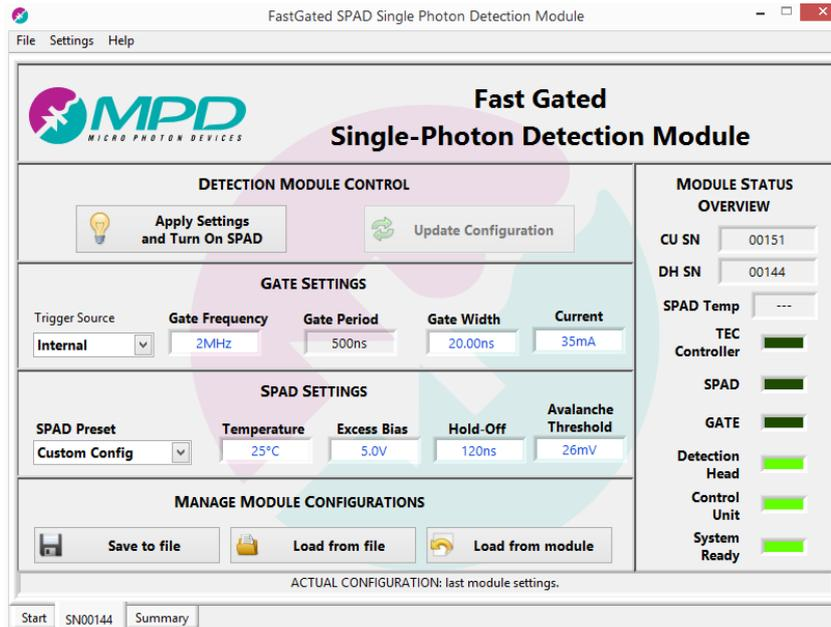
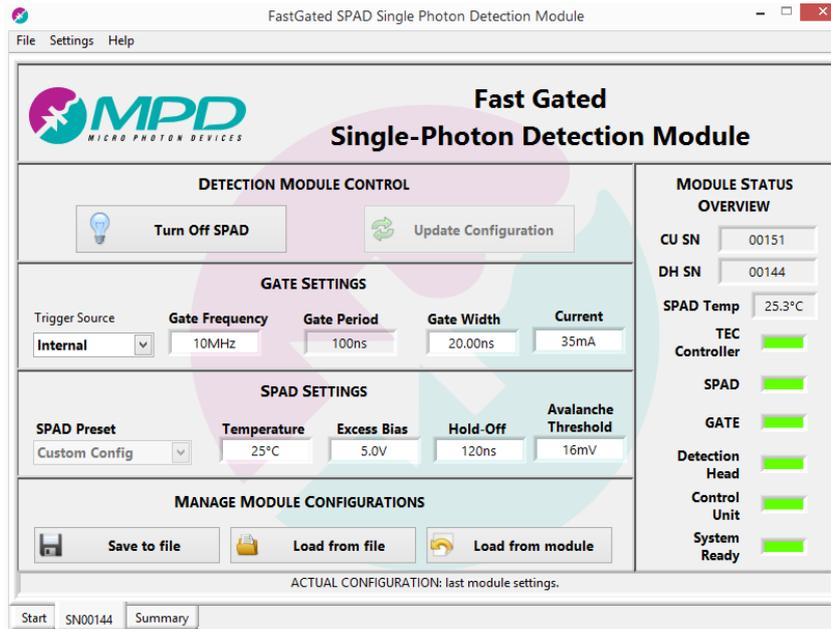
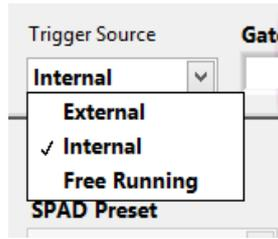
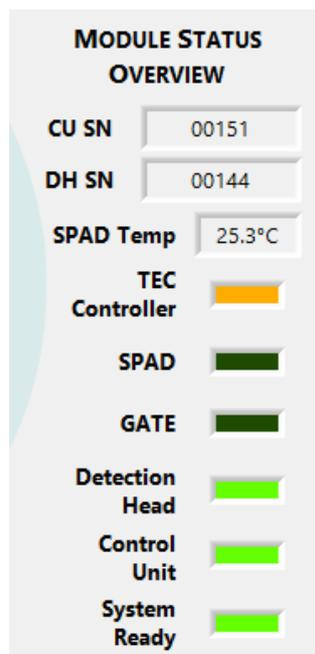

Figure 9. Module tab screenshot before turning on the SPAD.
Figure 10. Module tab screenshot after having turned on the SPAD.
Figure 11. Trigger selection drop menu.
Figure 17. Module Status Overview indicators, during detector power on.
After clicking the *Accept Config* button in the *Start* tab, the software creates a module tab for each attached system. The tab label reflects the *Custom Name* given at the specific module. Every module tab opens an interface whereby all the configurable parameters of the detector, the trigger and the gate signals, can be set. A working configuration, even though not optimized for the particular user application, can be loaded through the SPAD Preset drop-list menu (*working-config*). Otherwise the user can change all the available parameters, using the *custom-config*. In Figure 9 it is reported a page screenshot, taken before turning on the SPAD. The next paragraphs will describe all the controls, buttons and indicators that can be found into this window, divided by section.
In this section of the panel there are two buttons: *Apply Settings and Turn On SPAD* and *Update Configuration* (Figure 9). The first button changes to *Turn Off the SPAD* after the FastGated SPAD has been turned on, as shown in Figure 10, and will revert to the initial name after the turn off procedure. The two buttons are used to upload the user-defined parameters in the control unit and turn on and off the detector; in particular:
- *Update Configuration* button: once the SPAD is on, trigger and gate parameters can be changed at user convenience. The modified values are then uploaded immediately in the module by pressing this button. Note that this button becomes active only when at least one parameter is changed since the last update. The values which have been changed, but not yet uploaded, are highlighted in blue as shown in Figure 9. A change of some of the settings may require a detector power off and a consequent power on transient, but this is carried out automatically by the module.
In the *Gate Settings* section, the parameters related to the gated-mode operation of this module can be set. The photodetector is only enabled for a programmable time, named *Gate Width* (T_{ON}), every time a trigger event occurs, as described in paragraph 1.5. This trigger can be externally sent to the module by the TRIGGER IN input or internally generated by the module. The *Gate Width* instead is always produced with the internal circuitry. In addition, the module can be operated in free running mode. The working modality is selectable through the *Trigger Source* drop box list, shown in Figure 11.
It is important to notice that, in order to confirm frequency modifications and upload them to the module, the *Update Configuration* button shown in Figure 10 must be always pressed.
The module could also be triggered by an external reference signal, provided by the user. This is typically derived from the laser sync output. By selecting the *External source* with the menu in Figure 11 the panel shown in Figure 10 and highlighted in Figure 14 will appear. With the controls in this panel, both the valid edge and the input threshold voltage can be chosen. In this way, many different logic levels can be accepted by TRIGGER IN input. See Chapter 4, for the electrical specifications.
In this panel, shown for example in Figure 10 and depicted in Figure 17, there are six status LEDs, and three other indicators. The LEDs color description are:
- Select a *Trigger source* (internal/external or *FreeRunning*) through the menu shown in Figure 11 and fill as desired the trigger related fields.